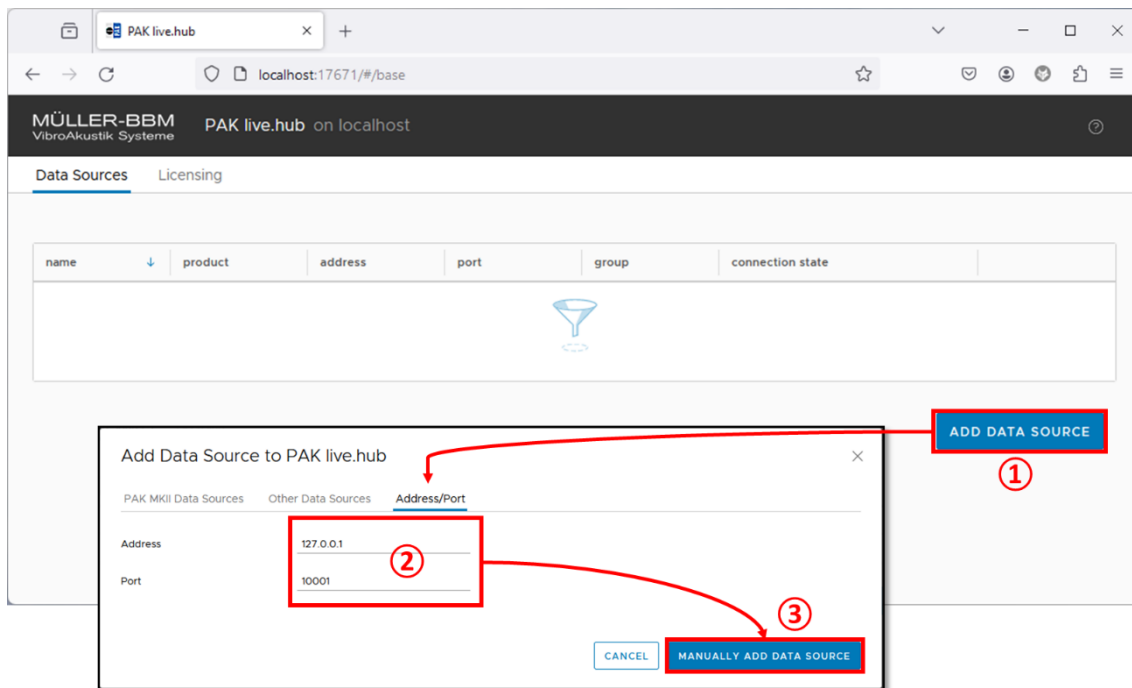

Figure 6: Create connection to PAK live.hub service
1. Press the button “ADD DATA SOURCE” (see ① in Figure 6)
2. Navigate to the “Address/Port” tab to enter your IP-address and port. (see ② in Figure 6)
3. Use the port from the settings of the PAK Live channel in your OXYGEN Setup (see Figure 6)
4. After entering the IP-Address and port, press the button “MANUALLY ADD DATA SOURCE” to create the connection (see ③ in Figure 6)